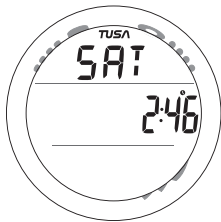

Fig. 61 - DESAT TIME
**Desat Time**, information includes (Fig. 61):